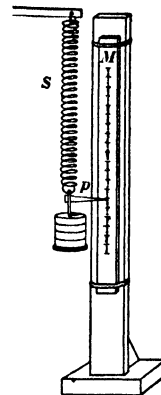

FIG. 27
**I. Stretching.** Set up a steel spring  $S$  and a mirror-scale  $M$ , in the manner shown in Fig 27